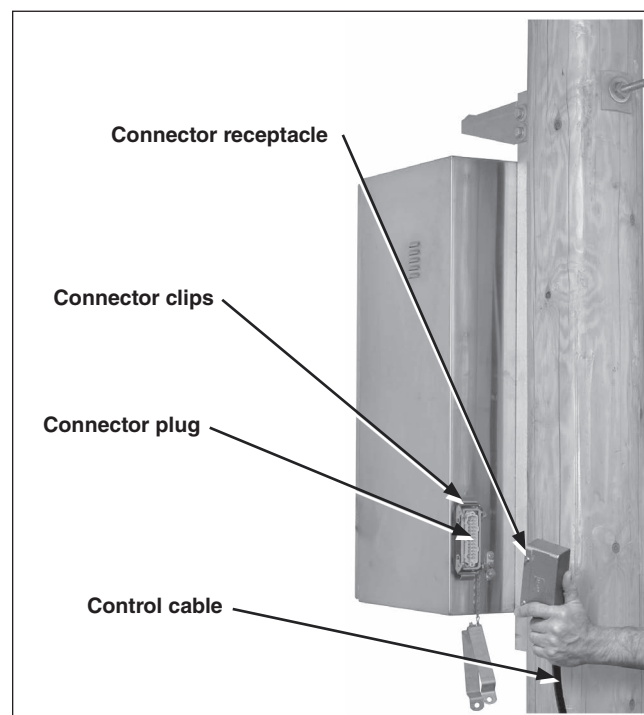

Figure 8. Connect the control cable to the communication and control unit.
**STEP 6.** Locate the connector plug on the back of the communication and control unit enclosure, remove the dust cover, and attach the control cable plug. Secure the plug with the connector clips. Retain the dust cover for future use. See Figure 8.